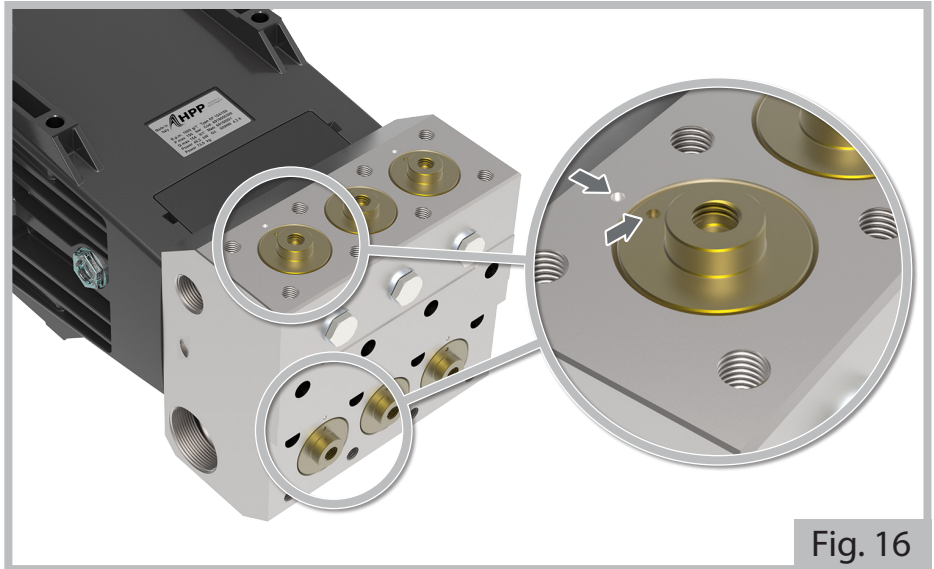

Fig. 16
For a correct assembly, the reference marks on the spacers (8) have to mate those on the head, as shown in Figure 16.